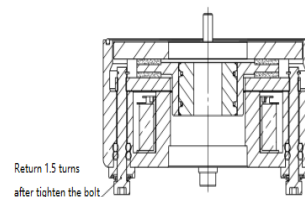

Fig. 10
2. To return the park brake to normal, ensure the release bolts have been tightened. Use a hex wrench to loosen the release bolt 1.5 turns, allowing the brake to function normally, as shown in Fig 10